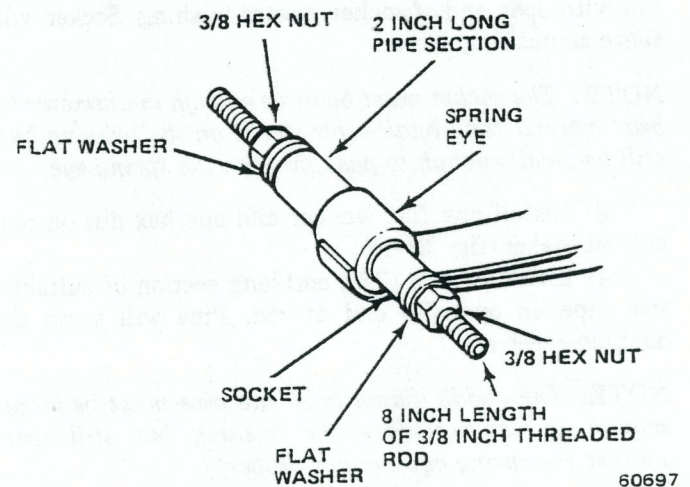

Fig. 2N-9 Bushing Replacement Tools—Small Bushing
(3) Install one flat washer and one hex nut on rod behind socket (fig. 2N-9).